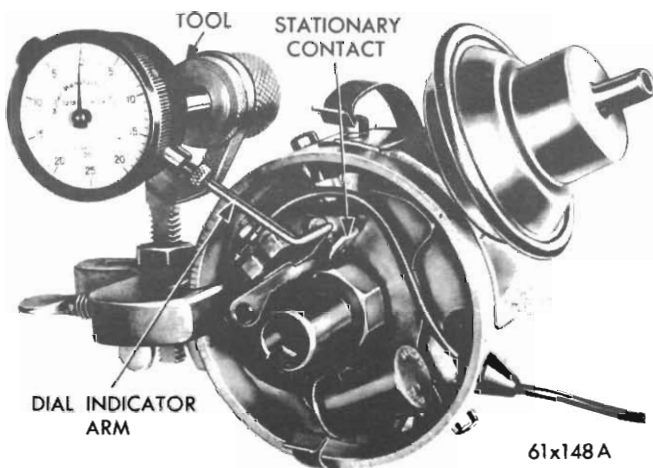

Fig. 4 - Adjusting contact clearance with indicator (typical view)
- (1) Remove the old contacts and install a new set. Touching the contact faces with fingers during installation will cause burning of points during operation.
- (2) Align the contacts to obtain centre contact by bending the stationary contact bracket only. Never bend the movable arm to obtain alignment.
- (3) After aligning the contacts, readjust the contact clearance to specifications using a dial indicator (*Fig. 4*).
- (4) Test the dwell angle to show proper degrees of closure. (*See Distributor Point Dwell.*) The lock screw should be loosened just enough so that the stationary bracket can be moved with a slight drag; otherwise it will be difficult to set the contacts accurately. After setting the contacts to correct the gap, tighten the lock screw.